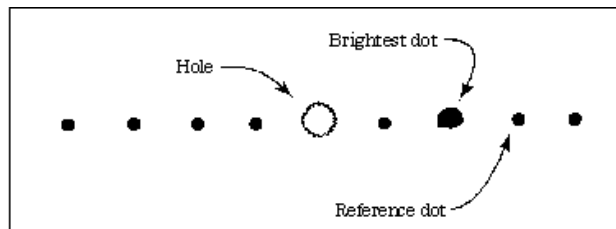

Figure 16: HeNe interference pattern
Swing the grating into place taking care not to touch its expensive optical surface. The grating functions in place of the back-mirror and will allow you to align the laser for one lasing wavelength at a time. Once again you will use the Red alignment laser as an alignment tool. Rotate the mirror as before and set the laser up as before and turn it on. Place a card with a small hole in it between the back Brewster window and the grating inside the large plastic safety box. When the Red beam passes through the hole and hits the grating, you can see the reflected diffraction pattern on the card (see Figure 16). The row of dots should be horizontal, and as you move the grating, different dots should fall on top of the hole. You should only have to adjust the grating by rotating its mount around the vertical axis (see Figure 11, #5); the other orientations are fixed by what you do with the HeNe. If you cannot make the HeNe interference pattern horizontal, it is possible that the grating is not aligned along its other axes and you should see the staff for assistance. It does not help to turn the small allen-head screw that rotates the grating within its mount, don't do it. (THIS WILL CAUSE A LOSS OF TIME FOR YOU)
Align the grating so that the reflected *reference-dot* (see Figure 16) returns to the output port of the HeNe laser. This grating angle is very close to the proper alignment for the P(20) line. You will have to adjust the grating slightly later since the diffraction pattern of the HeNe is only a measuring tool and this reference dot does not coincide exactly with the CO2 P(20) line. Use a rubber band to hold the grating in position against the micrometer.